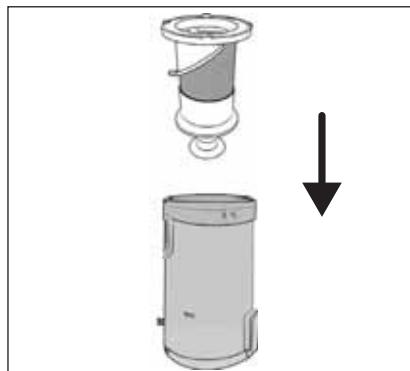

Fig. 21
- 6) Insert the stainless steel filter ⑤ into the dust container ⑥ and push it all the way down (see Fig. 21). Pay attention to the different sized locks on the stainless steel filter ⑤. The stainless steel filter ⑤ can only be inserted into the dust container ⑥ in one position due to these locks.